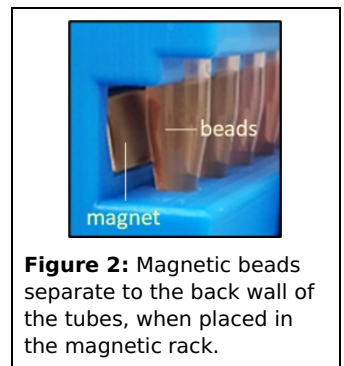

Figure 2: Magnetic beads separate to the back wall of the tubes, when placed in the magnetic rack.
9. Slide the tube rack onto the magnetic stand and allow to sit for 1-2 minutes, until the magnetic beads separate from the homogenate (Figure 2).